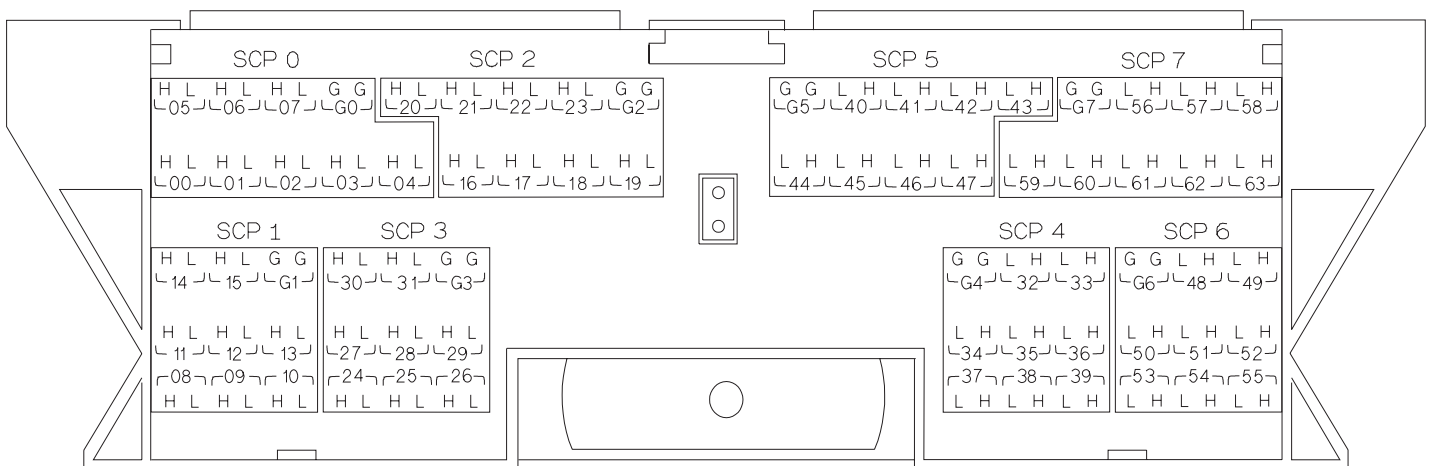

Figure 4 Agilent/HP E1413 Option 12 Terminal Module Connections
- For Agilent/HP E1413B and below Terminal Modules, use stickers for Agilent/HP E1413 Option 12 SCPs. The connections are shown in Figure 4.